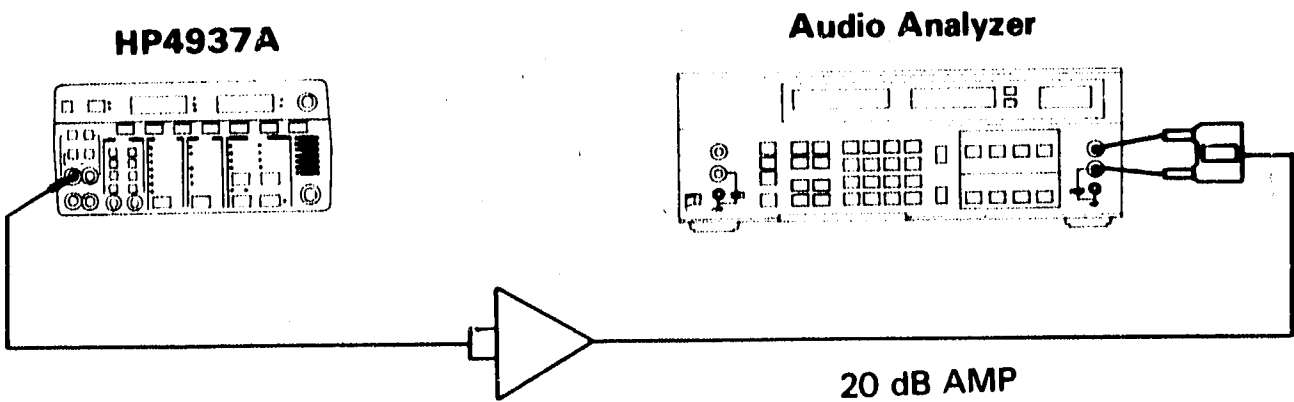

Figure 4-4. -40 dBm Distortion Test
6. Connect equipment as shown in figure 4-4.